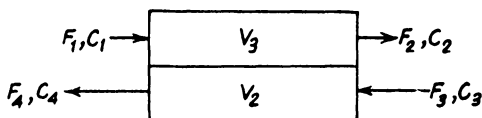

Fig. 1.15
**1.32. Process dynamic equations of a counter current dialyser, shown in Fig. 1.15.**